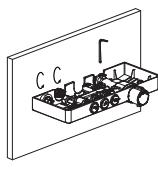

Figure 7
- Connect the thermostatic shower panel back on the wall. Use a wrench to secure the copper screw and to connect the hot water connector and curved connector (Figure 7).